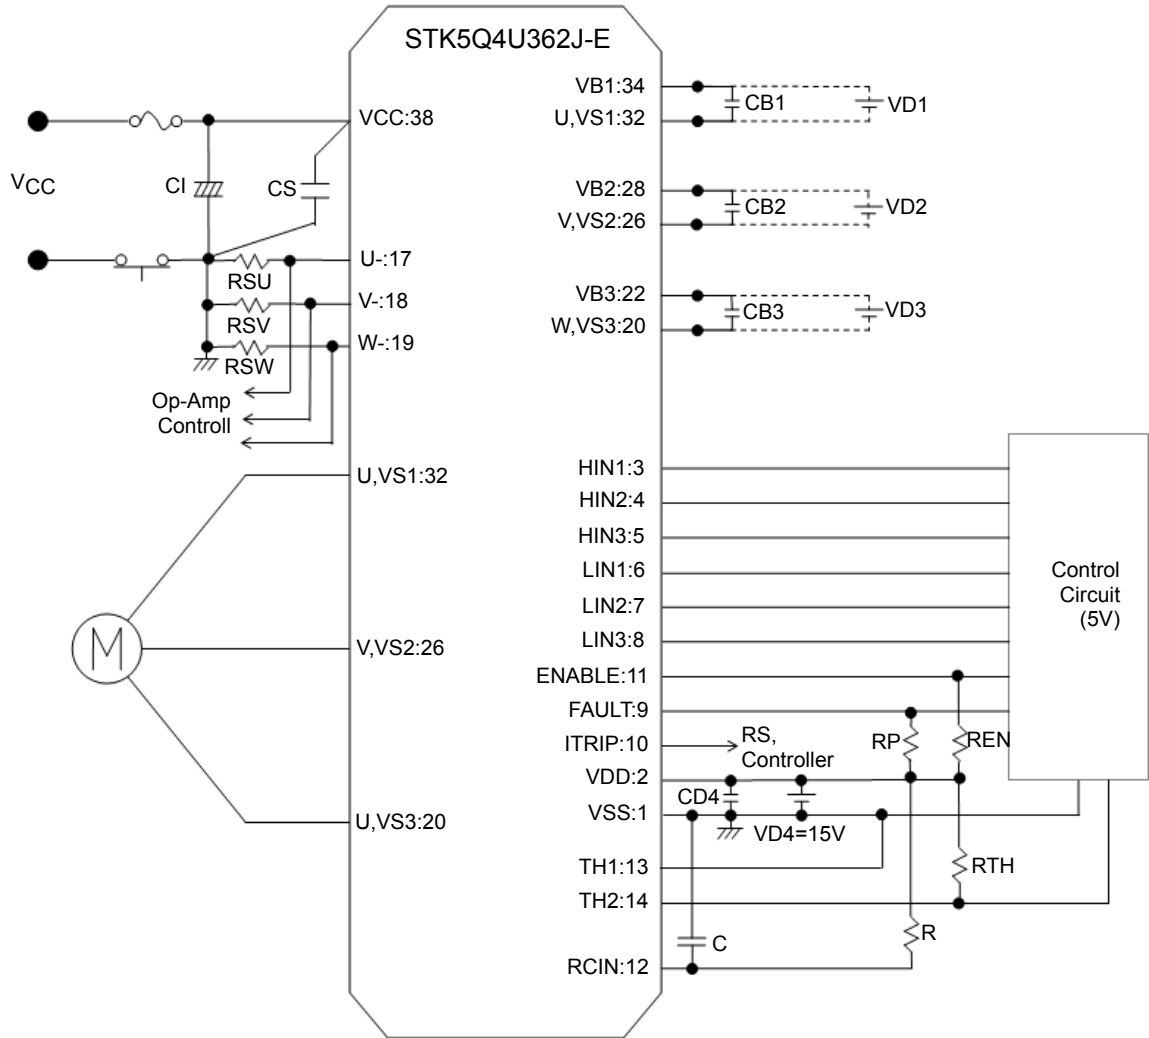

Fig. 9
6. Inside the IPM, a thermistor used as the temperature monitor for internal substrate is connected between TH1 terminal and TH2 terminal, therefore, an external pull up resistor connected between the TH1(or TH2) terminal and an external power supply should be used. Please check the temperature monitor application at Fig9, and Fig10.